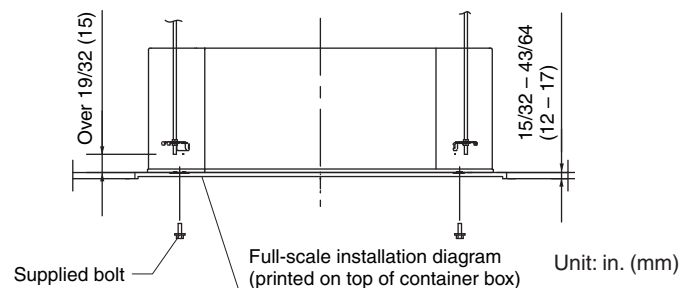

Fig. 3-4
- (1) When placing the unit inside the ceiling, determine the pitch of the suspension bolts using the supplied full-scale installation diagram. (Fig. 3-4) Tubing and wiring must be laid inside the ceiling when suspending the unit. If the ceiling is already constructed, lay the tubing and wiring into position for connection to the unit before placing the unit inside the ceiling.